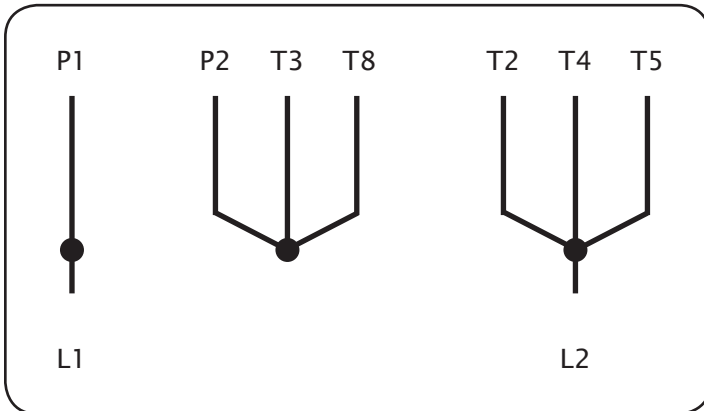

figure 1
- For 115 Volts - Wire Motor As Shown in Figure 1